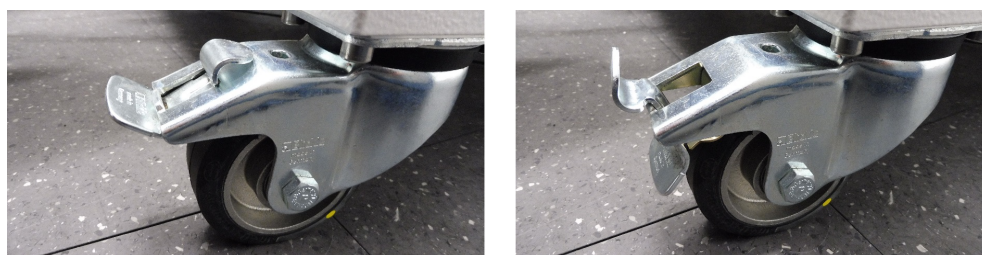

Figure 5-1: Wheel with brake
4. When you have finished moving the chamber, lock the wheels to prevent unintentional movement. See Figure 5-1.
3. Unlock the wheels of the chamber. See Figure 5-1.
5. Lock the front wheels. See Figure 5-1.